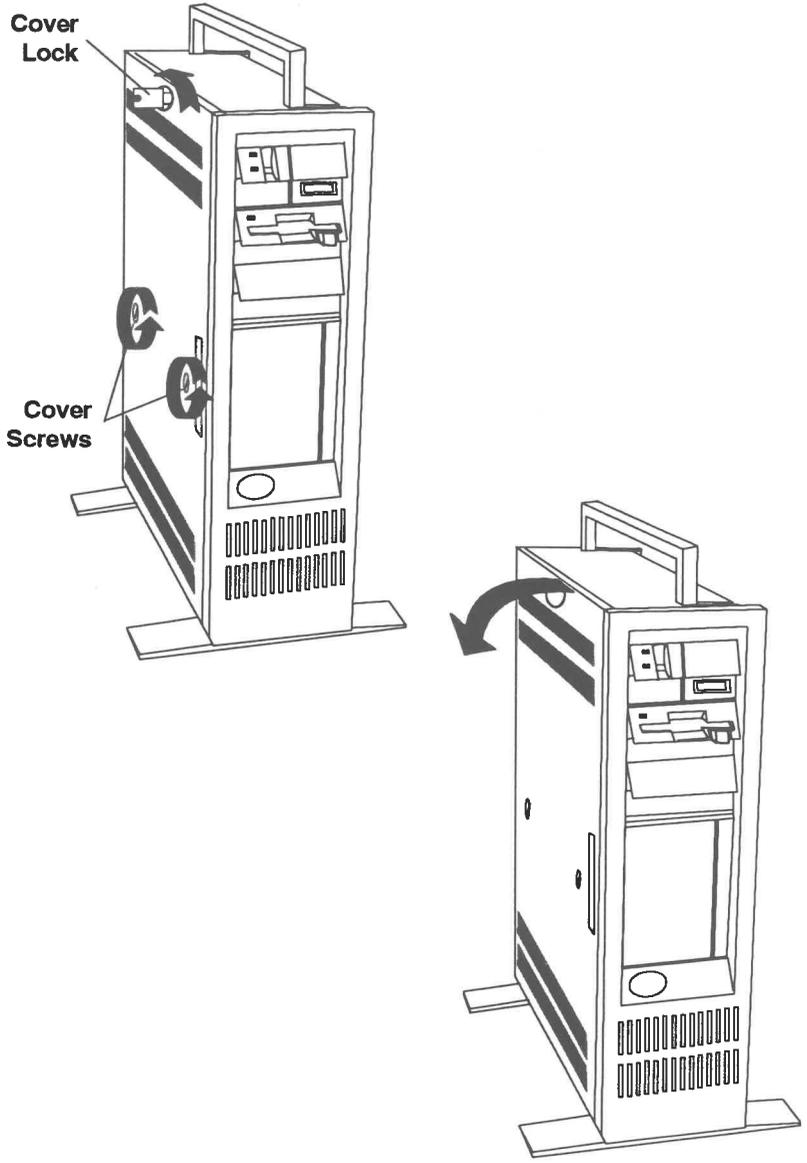

Figure 2-3 Side Cover Removal/Installation
4. Loosen the two capture screws in the side panel as shown in Figure 2-3.
5. Pull the top portion of the panel away from the computer, then lift the panel up and out as indicated in Figure 2-3.